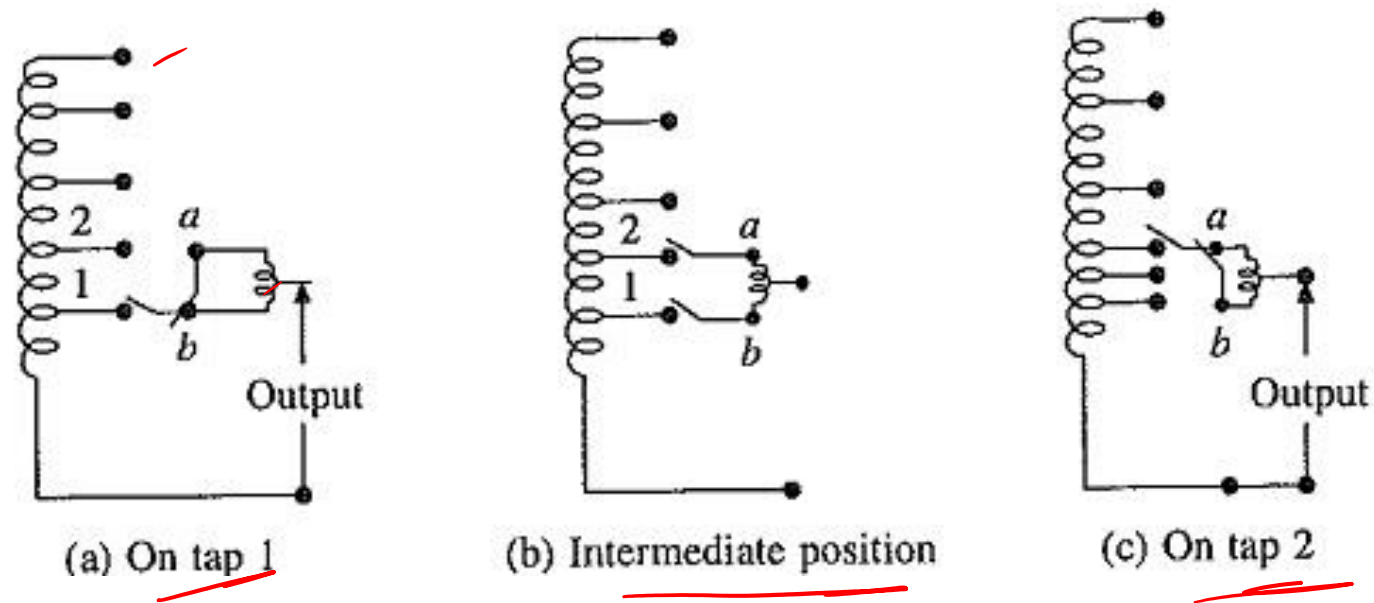

Fig. 2. On load tap changer.
- For high-power applications a transformer with tapings is employed and tap changing is done with the help of an on-load tap changer (Fig. 2) to avoid severe voltage transients, produced due to interruption of current in open circuit transition.